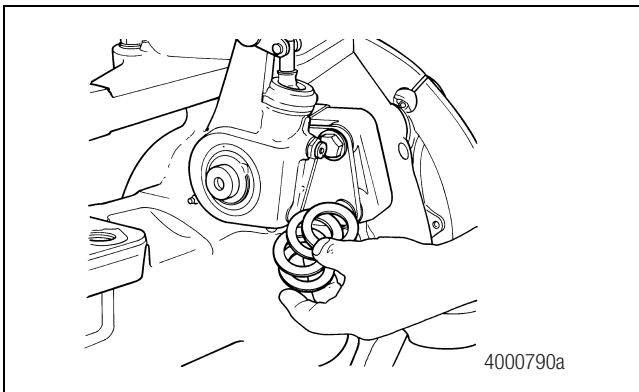

Figure 6.18
14. Install slack adjuster shims at the adjuster end of the camshaft. Figure 6.18.